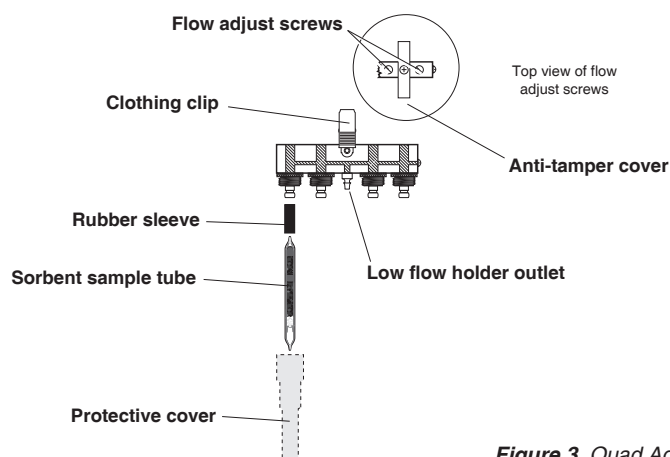

Figure 3. Quad Adjustable Low Flow Tube Holder
Using a CPC and Dual, Tri, or Quad Adjustable Low Flow Tube Holder (Figure 3)
- Using a small screwdriver, loosen and turn the brass flow adjust screw (see above right) directly beneath the port holding the first active representative tube to be calibrated (**clockwise** to increase, **counterclockwise** to decrease) until the calibrator indicates the method-specified flow rate. **Do not adjust the flow rate on the pump.** *Note: For tri and quad models, first rotate each anti-tamper cover to expose the flow adjust screws, then adjust the appropriate one until the calibrator indicates the desired flow (Figures 3 and 5).*